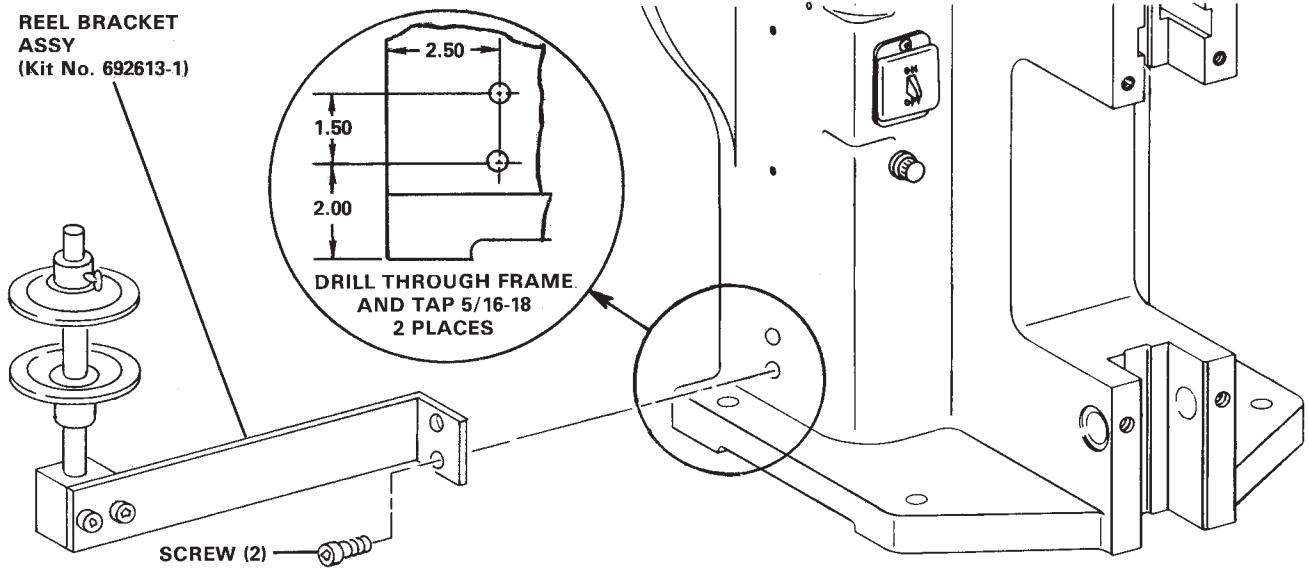

Figure 3
NOTE: KIT NO. 690675-2 SHOWN. REFER TO FIGURE 3 FOR KIT NO. 692613-1*.
2.2. Kit No. 692613-1 Installation (Figure 3)
1. Lay out the machine frame for holes as shown in Figure 3.